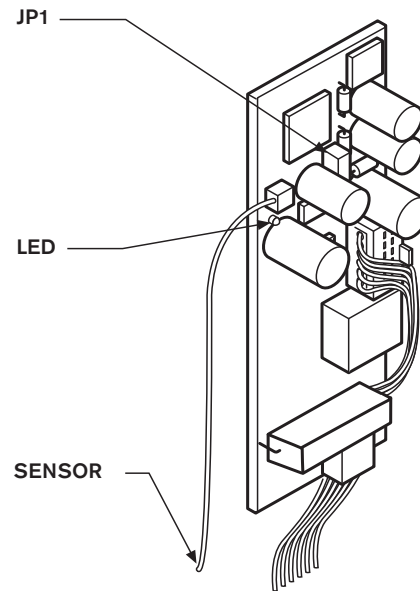

Fig. 35 ADM - switches and LED's
8. Make the jumper **JP1** on the **ADM** while powering up the appliance, see Fig. 35.